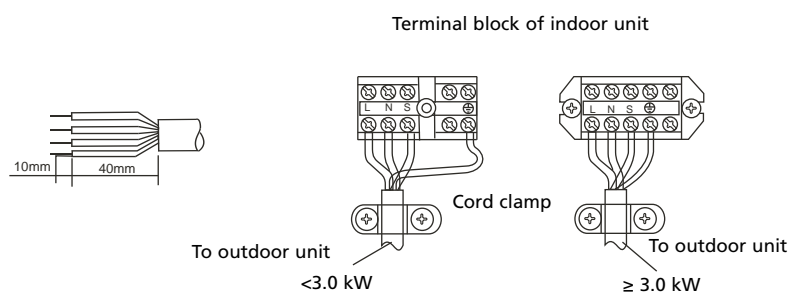

Fig. 22
3. Connect cables according to their marks to terminals. (fig. 22)